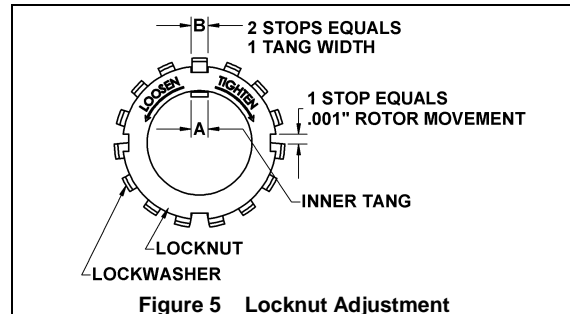

Figure 5 Locknut Adjustment
14. It is important that the bearing locknuts (24A) and lockwashers (24B) be installed and adjusted properly. Overtightening locknuts can cause bearing failure or a broken lockwasher tang. Loose locknuts will allow the rotor to shift against the heads, causing wear. See Figure. 5.